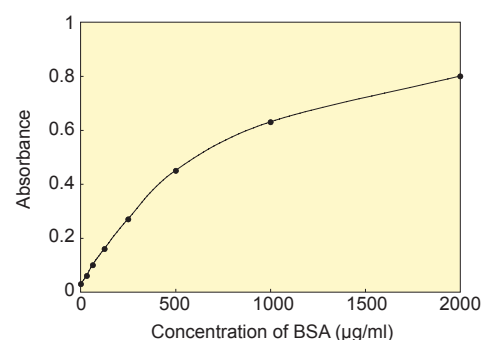

Fig. 3 Typical calibration curve prepared by Standard BSA solution.
- 7) Plot the concentration of BSA on the X-axis and absorbance on the Y-axis to prepare a calibration curve (Fig. 3).